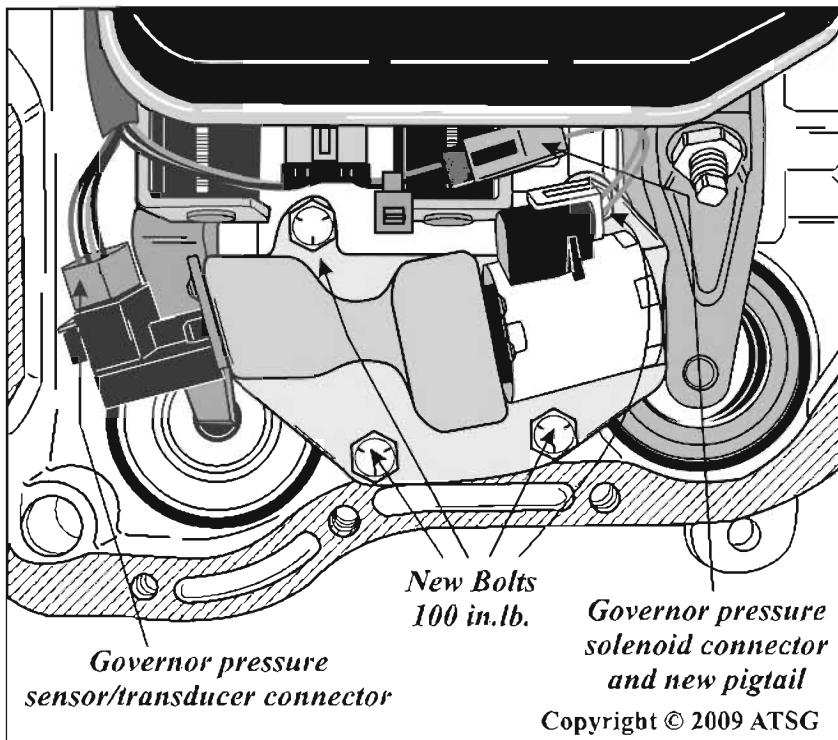

Figure 4
*Refer to figure 4 for a view of the new Manifold and Solenoid installed.*
**CORRECTION:** Using the part number provided below under service information, replace the capacitor (Figure 3). Refer to Figure 4 for a view of the new design capacitor. **Testing:** the capacitor can be tested by simply disconnecting it to see if the symptoms dis-appear. ATSG strongly recommends replacement. **Note:** ATSG has also had situations where the turbine shaft speed signal continued to be a problem even after replacing the capacitor and the harness for the TSS circuit proved good. In these instances the TCM will have to be replaced.